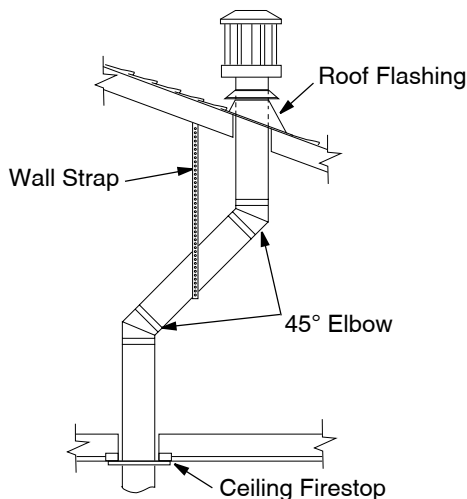

Figure 26 - Offset with Wall Strap and 45° Elbows
1. Determine the route your vertical venting will take. If ceiling joists, roof rafters, or other framing will obstruct the venting system, consider an offset (see **Figure 26**) to avoid cutting load bearing members. **NOTE:** Pay special attention to these installation instructions for required clearances (air space) to combustibles when passing through ceilings, walls, roofs, enclosures, attic rafters, etc. Do not pack air spaces with insulation. Also note maximum horizontal offset limitations.
Note: If an offset is needed to avoid obstructions, you must support the vent pipe every 3 feet. Use wall straps for this purpose (see **Figure 26**). Whenever possible, use 45° elbows instead of 90° elbows. The 45° elbow offers less restriction to the flow of the flue gases and intake air.
5. Place the flashing over the pipe section(s) extending through the roof. Secure the base of the flashing to the roof and framing with roofing nails. Be sure roofing material overlaps the top edge of the flashing as shown in **Figure 26**. There must be a 1" clearance from the vent pipe to combustible materials.